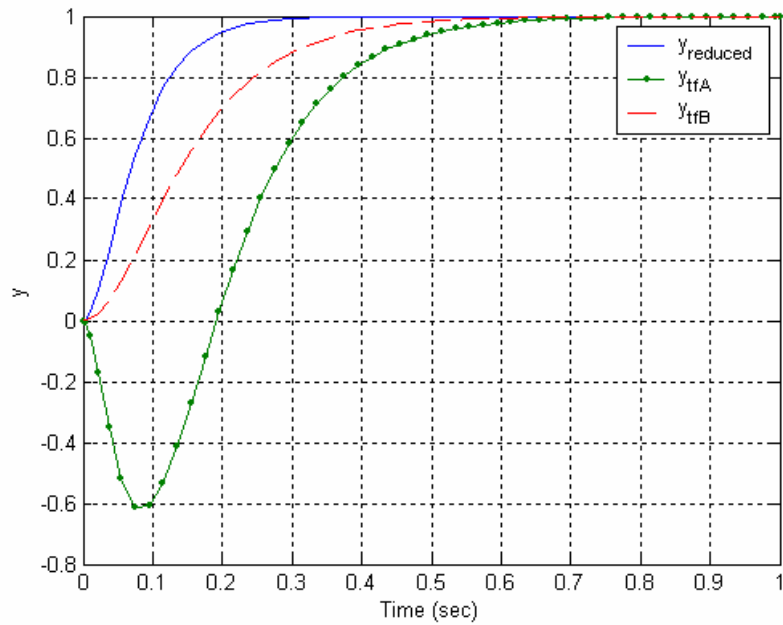

Figure 2. Results for 1d.
d) Copy your observer/controller from part (a) to new files (Copy both the Matlab and Simulink files.). In addition to this state space based model, implement an observer/controller transfer function as suggested on page 932 of the text (See example A-12-14. In this example K_a is the part of K multiplying the known states and K_b is the part of K multiplying the estimated states.) for both types of configurations (controller in the feedforward path and controller in the feedback path.) Assume for all systems that the closed loop state feedback poles are at $p = [-20 \ -30]$ and the observer poles are at -10 . Assume all initial states are zero. Note that you do not need to write your model of the plant as a transfer function (you can leave it as a state space model), though the observer/controller transfer function should be written as a transfer function. Be sure to include the proper prefilter. You should get results like those displayed in Figure 2. Turn in your plot and Matlab/Simulink code.